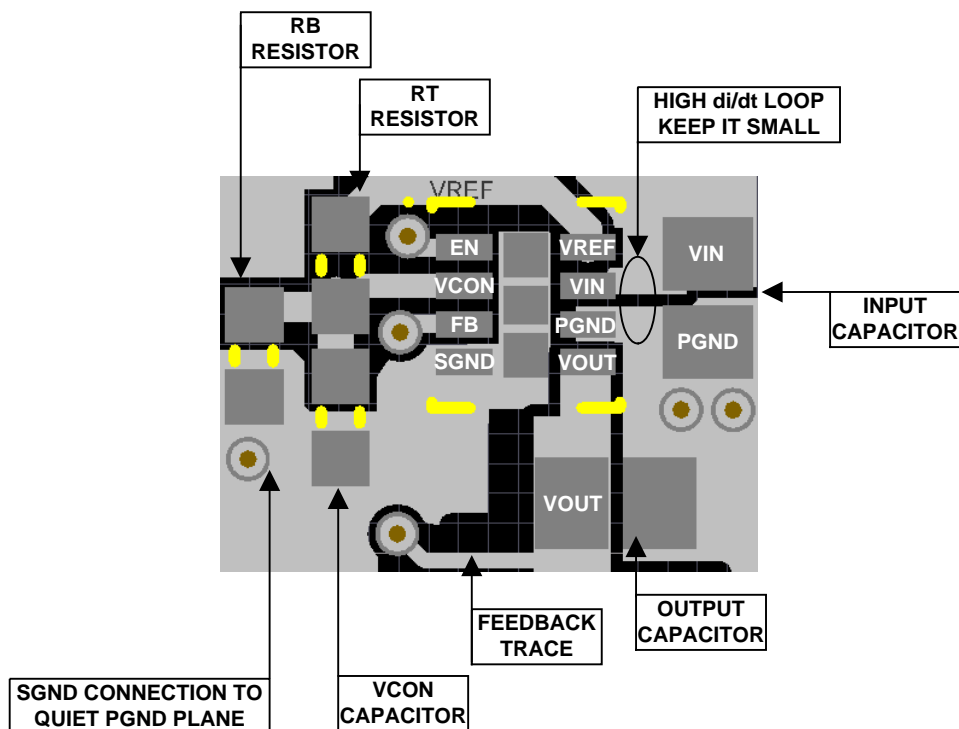

Figure 38. Example Top Layer Board Layout
The LMZ10500 integrates the inductor and simplifies the DC/DC converter board layout. Refer to the example layout in Figure 38. There are a few basic requirements to achieve a good LMZ10500 layout.
2. Place the  $V_{CON}$  filter capacitor  $C_{VC}$  and the  $R_B$   $R_T$  resistive divider as close as possible to the  $V_{CON}$  and SGND terminals. The  $C_{VC}$  capacitor (not  $R_B$ ) should be the component closer to the  $V_{CON}$  pin, as shown in Figure 38. This allows for better bypass of the control voltage set at  $V_{CON}$ .